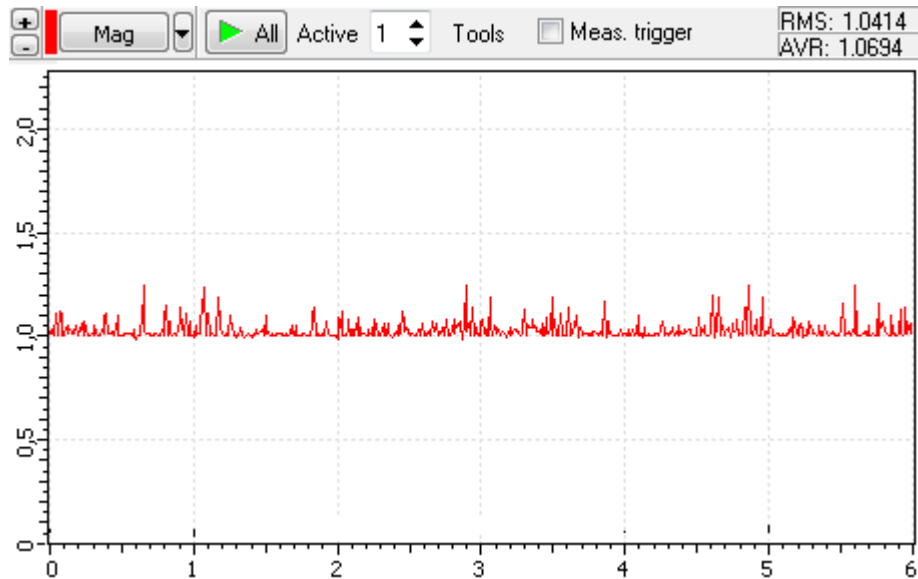

Fig. 10-32
6. Adjusting the generator output, achieve the **Mag** level equal to 1–2 nA (Fig. 10-32). The voltage level can be regulated using the Auxiliary Parameters panel (**Gen1Amp** parameter). The detected signals can be amplified with gain of the lock-in detector (**LockGain** parameter in the Auxiliary Parameters panel).